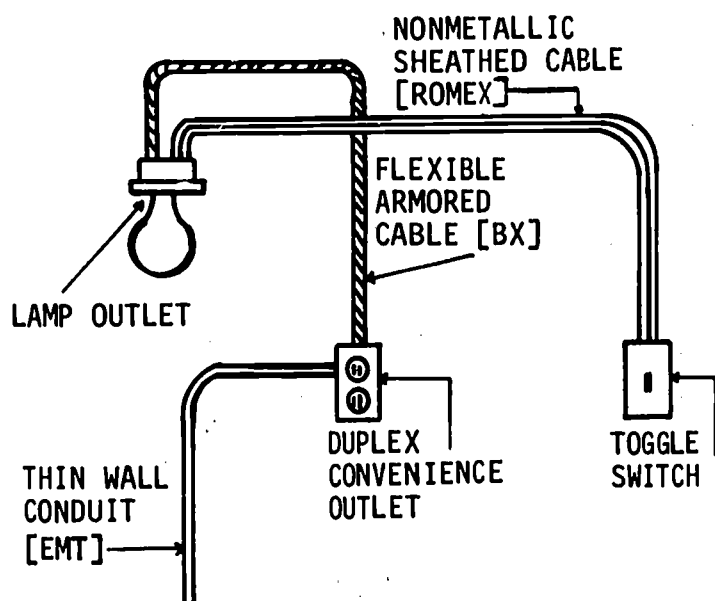

Fig. 53-1. Electrical Installation.
Today you will install thinwall conduit (EMT), nonmetallic sheathed cable (Romex), and flexible armored cable (BX), and you will pull wire through the conduit. See Fig. 53-1.